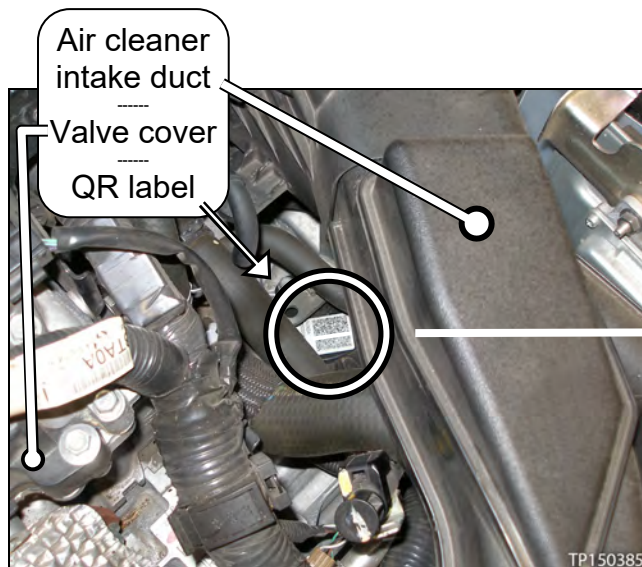

Figure 103
- See Figures 103 and 104 below.